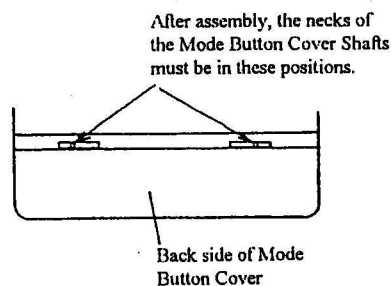

Fig.54
- Make certain that the necks of the Mode Button Cover Shafts are positioned as shown in Fig. 54.
- Secure the Back Cover Panel (2DD10500) by applying the bond (THREE BOND #1549) after completion of installing all the other parts of the Back Cover (D).